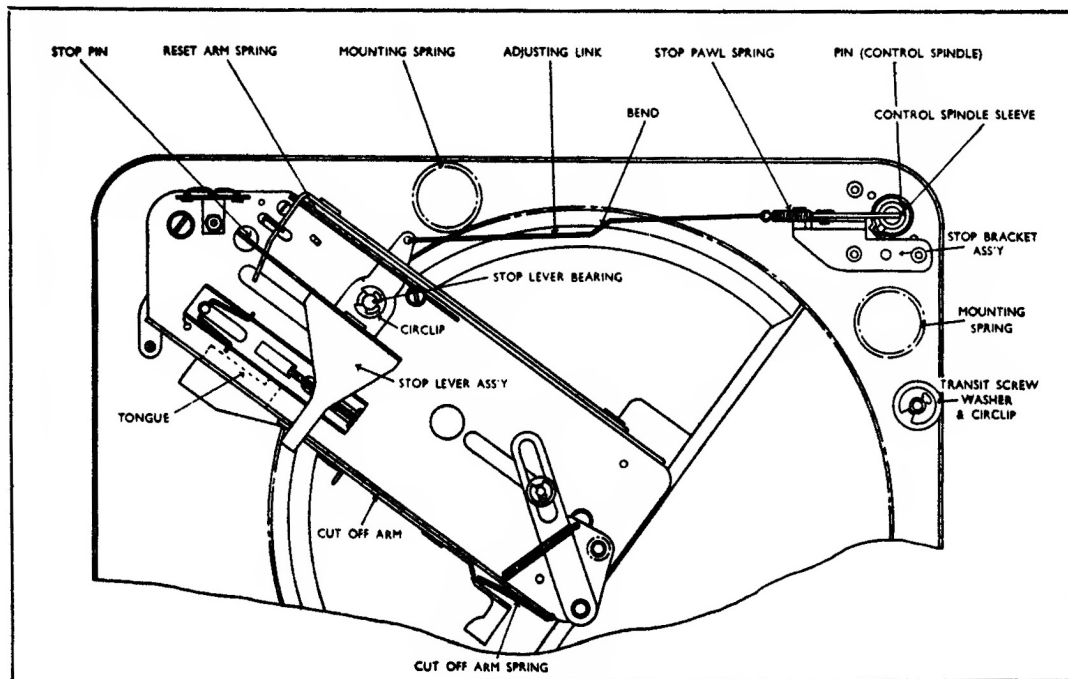

FIGURE 3.
Remove pin (Item 8M5) on underside of control arm spindle (Item 8M4) (See Figure 3).
(2) Adjusting link (Item 8M208) broken, disconnected or too slack (see Figure 3).
(3) Stop pawl spring (Item 8M17) loose, broken or faulty (see Figure 3).
(4) Undue friction at stop lever assembly bearing (see Figure 3).